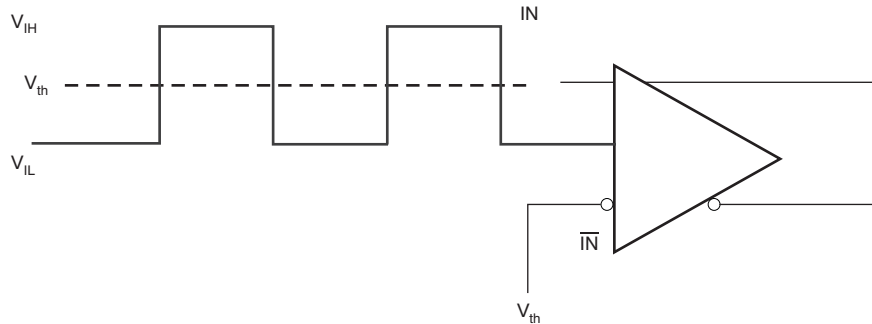
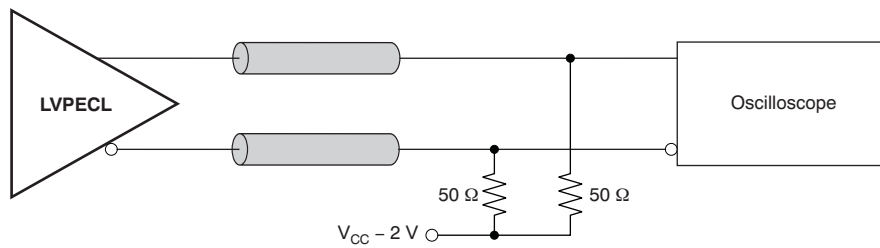
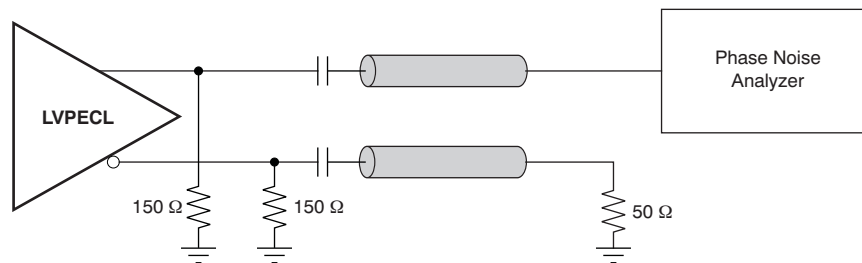

Figure 3. DC-Coupled LVCMOS Input During Device Test
Figure 8. LVPECL Output DC Configuration During Device Test
Figure 9. LVPECL Output AC Configuration During Device Test
(1) Figure 8 and Figure 9 show dc and ac test setup.
(2) Internally generated bias voltage ($V_{AC,REF}$) is for 3.3-V operation only. It is recommended to apply externally generated bias voltage for $V_{SS} < 3.0\text{ V}$.
This section describes the function of each block for the CDCLVP1216. Figure 3 through Figure 9 illustrate how the device should be setup for a variety of test configurations.